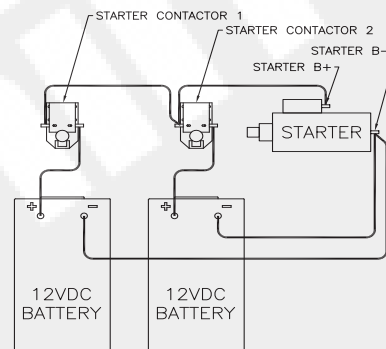

Figure 3-3 Series Battery Connection 12 VDC
1. As shown in Figure 3-3 or Figure 3-4, install the Battery Cable Kit or equivalent customer-supplied wiring. Install battery sets in a well-ventilated or otherwise protected location.